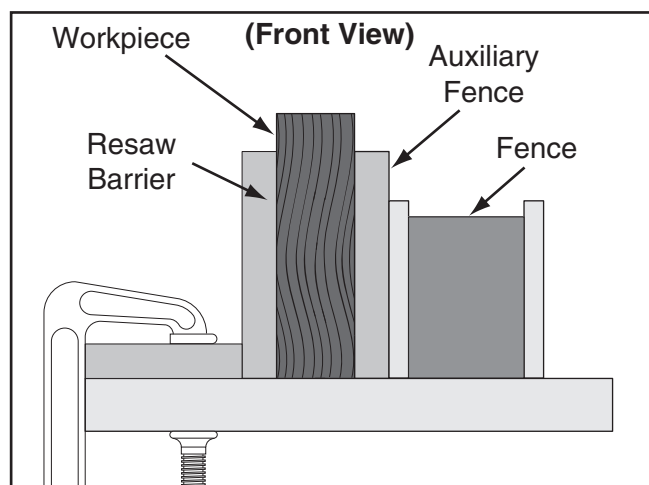

Figure 66. Ideal resaw workpiece setup.
5. Place workpiece against auxiliary fence and slide resaw barrier against workpiece, as shown in **Figure 66**. Now clamp resaw barrier to top of table saw at both ends.